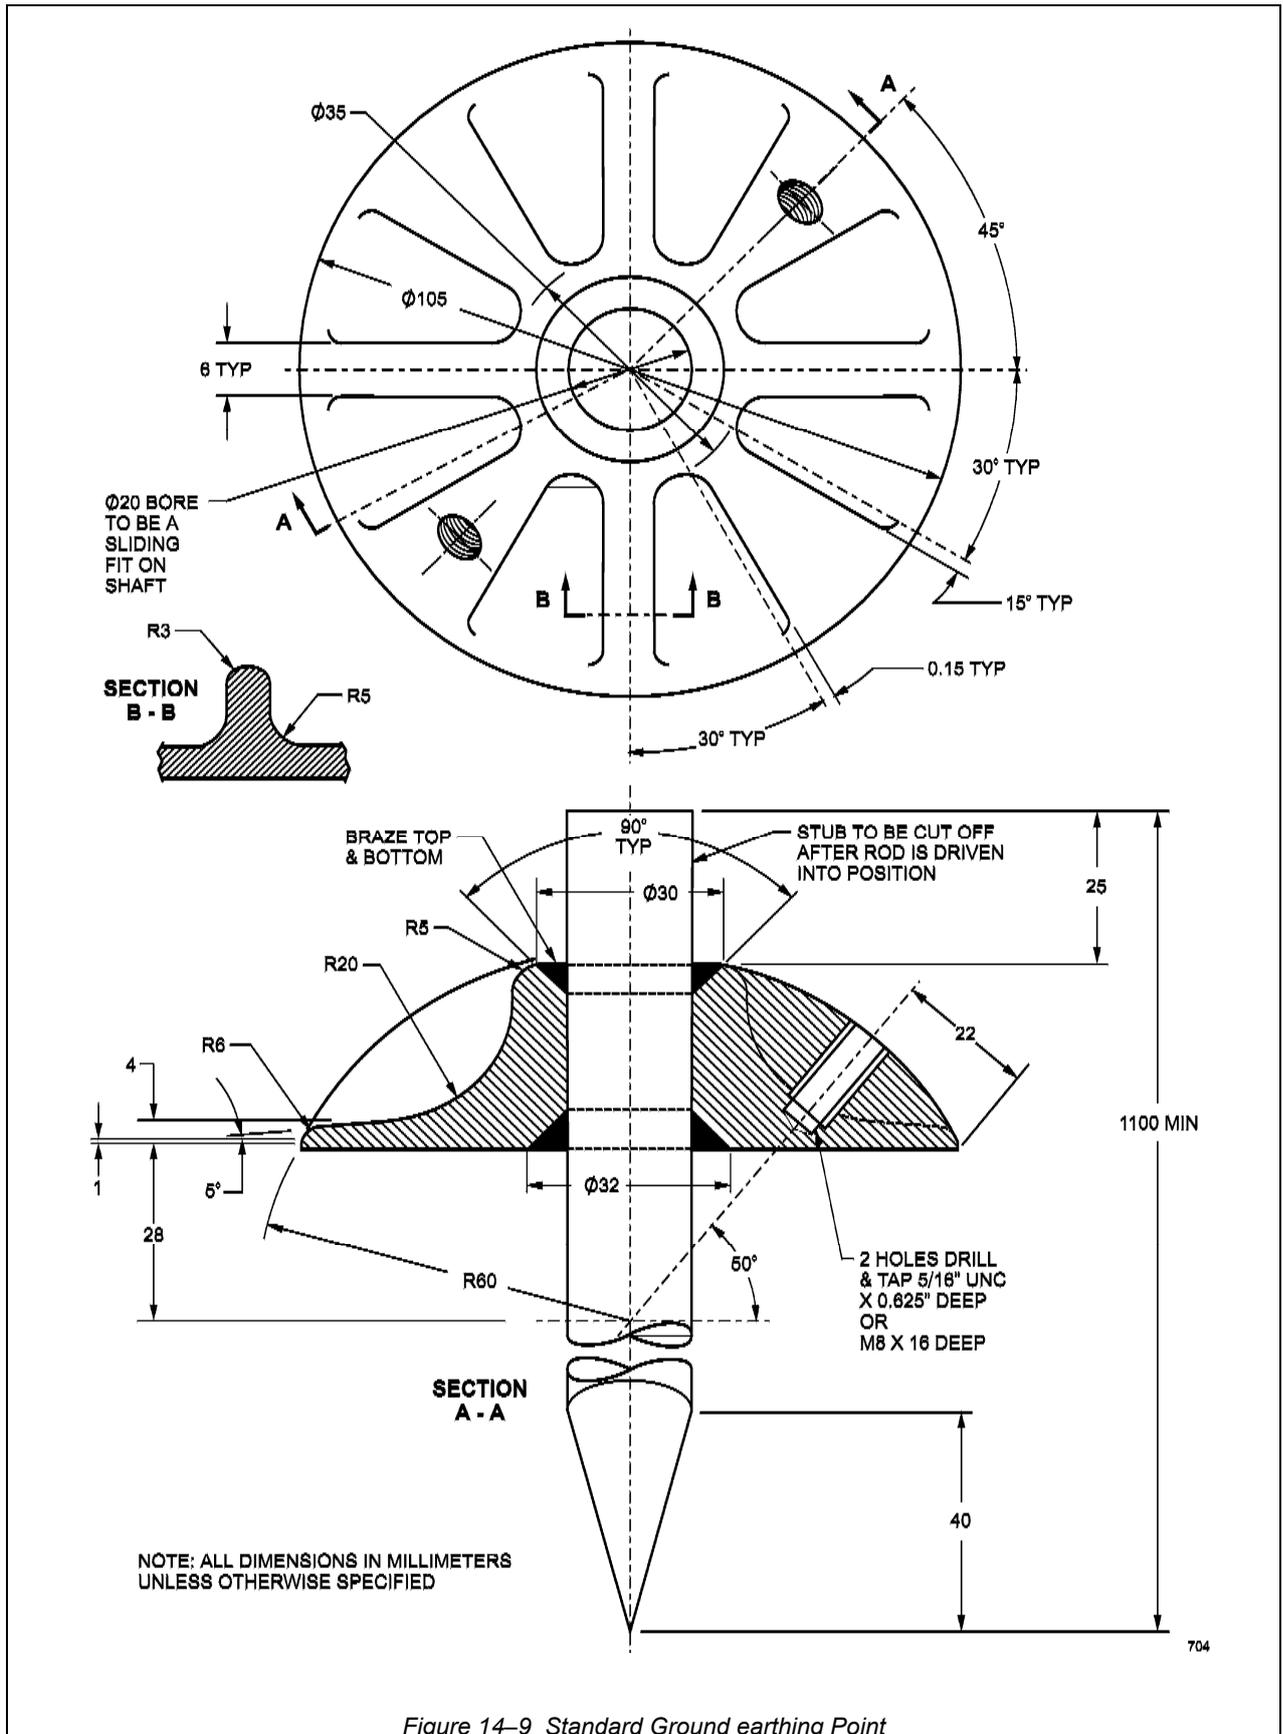
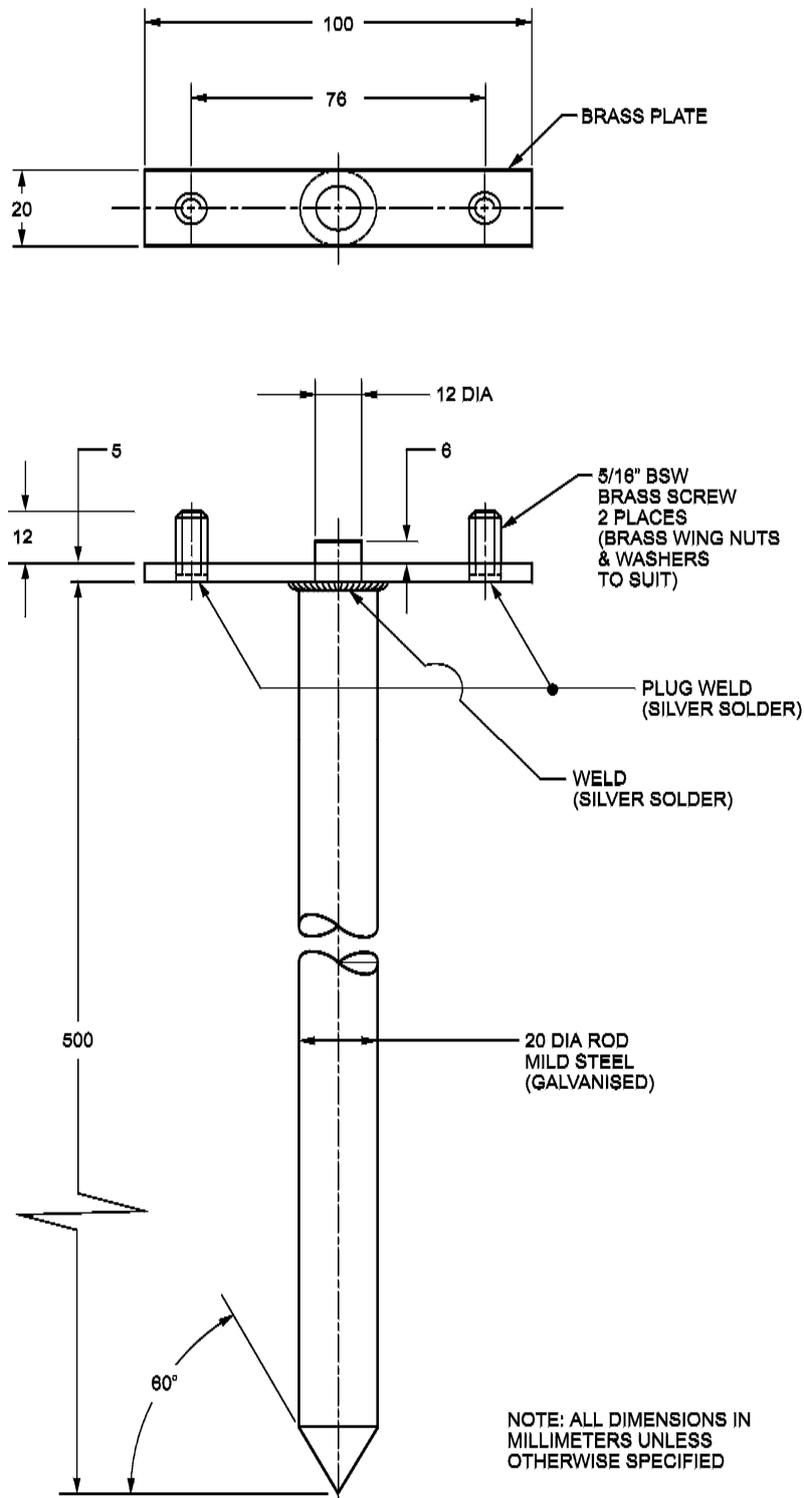

Figure 14-9 Standard Ground earthing Point
Figure 14-10 Temporary Ground earthing Point
**69.** Standard ground earthing points, similar to the detailed drawing at Figure 14-9, should be located adjacent to aircraft parking positions. Ideally, sufficient points are to be available so that no more than one aircraft is connected to any one point; however, this requirement is not mandatory.
73. A sample ground earthing point specifications are detailed in Figure 14-9 and Figure 14-10.
- a. **Preferred Method.** Made in the same form as a standard ground earthing point, (see Figure 14-9), except the minimum length is 50 cm.
- b. **Alternate Method.** When the standard earth point shown in Figure 14-9 is not available, temporary earth points may be manufactured using a galvanised mild steel rod with a brass top plate as shown in Figure 14-10.